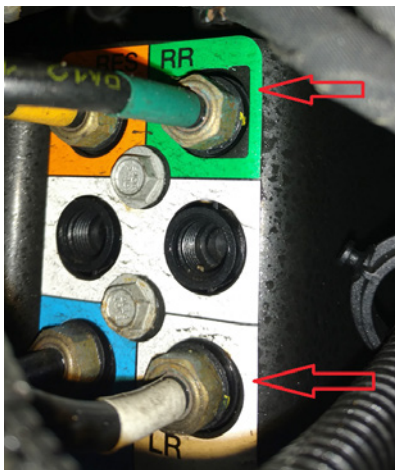

Figure 5
9. Locate the solenoid block on the frame below the passenger floor and loosen the fittings marked RR and LR on to deflate the air springs (fig. 5).